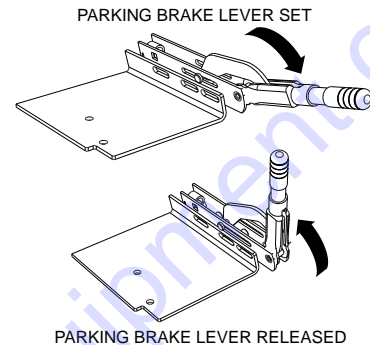

Figure 19. Parking Brake Lever
- Engage the parking brake lever (Figure 19) and attempt to rock the buggy back and forth. If the wheels turn during the rocking motion, adjust the brakes as outlined in the maintenance section of this manual.